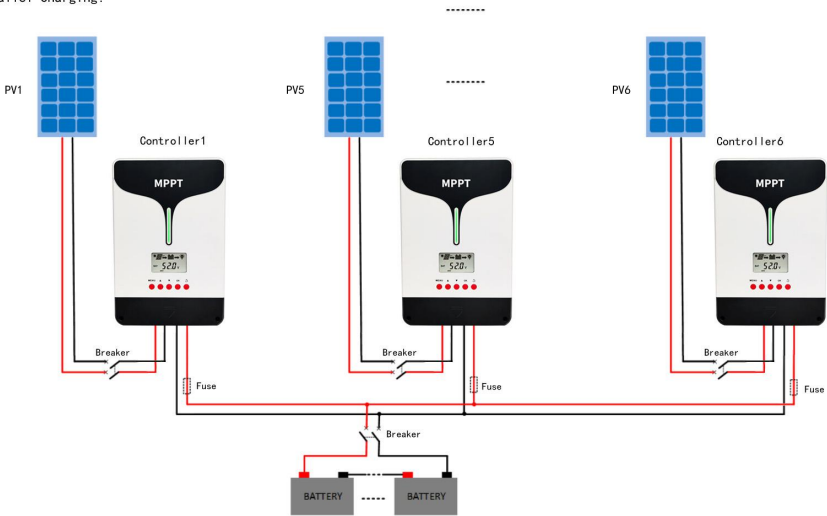

Figure 2-2 Schematic of wiring diagram
Connect the system in the order of ① battery ② PV array ③ load (only 60A) in accordance with Figure 2-2, "Schematic Wiring Diagram" and disconnect the system in the reverse order ③②①.
① Single controller